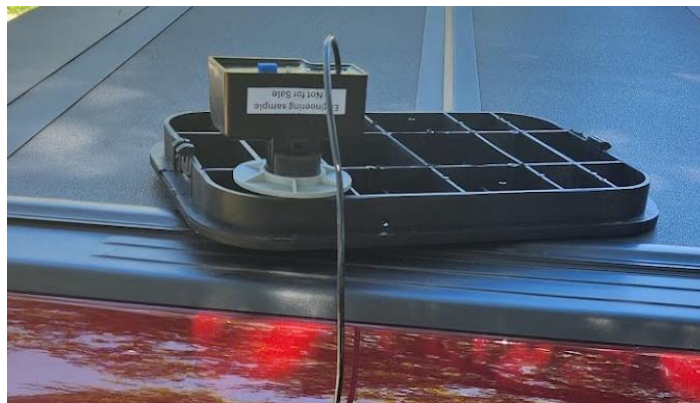

Figure 4
2. Install the PIT booster Module into the Pit Lid, Figure 4.